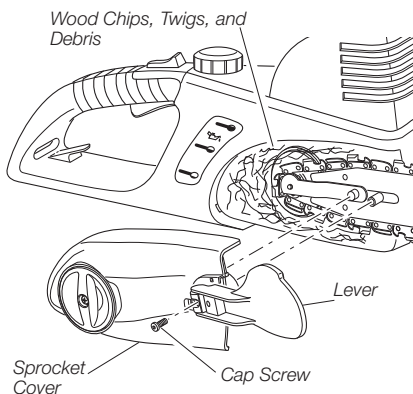
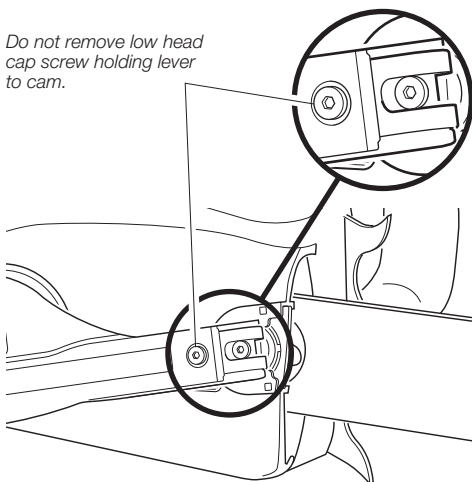

Figure 14 - Removing and Clearing Sprocket Cover of Debris
Figure 15 - Lever and Cam Screw Assembly Location
4. Using a 5/32" allen wrench, loosen and remove cap screw attaching lever and sprocket cover to saw body (see Figure 14). **Note:** Do not remove low head cap screw holding lever to cam (see Figure 15).
2. Grasp and pull open chain tensioning lever (see Figure 14).